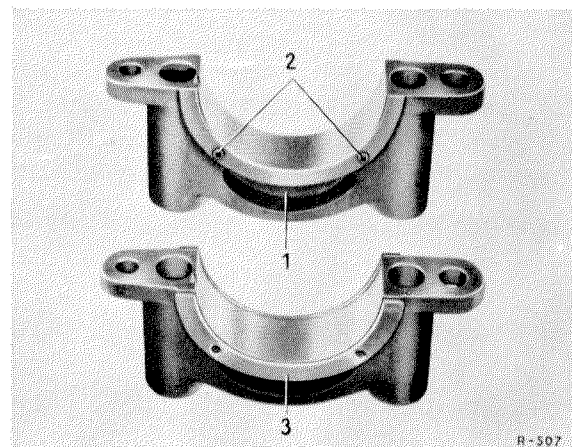

Figure 03-5/10
Note: The centre main bearing features a fitted bearing. In the place of bearing shells with flange, normal bearing shells are installed, the bearing cap is provided with one butting half (3) each on both sides (see Figure 03-5/10).